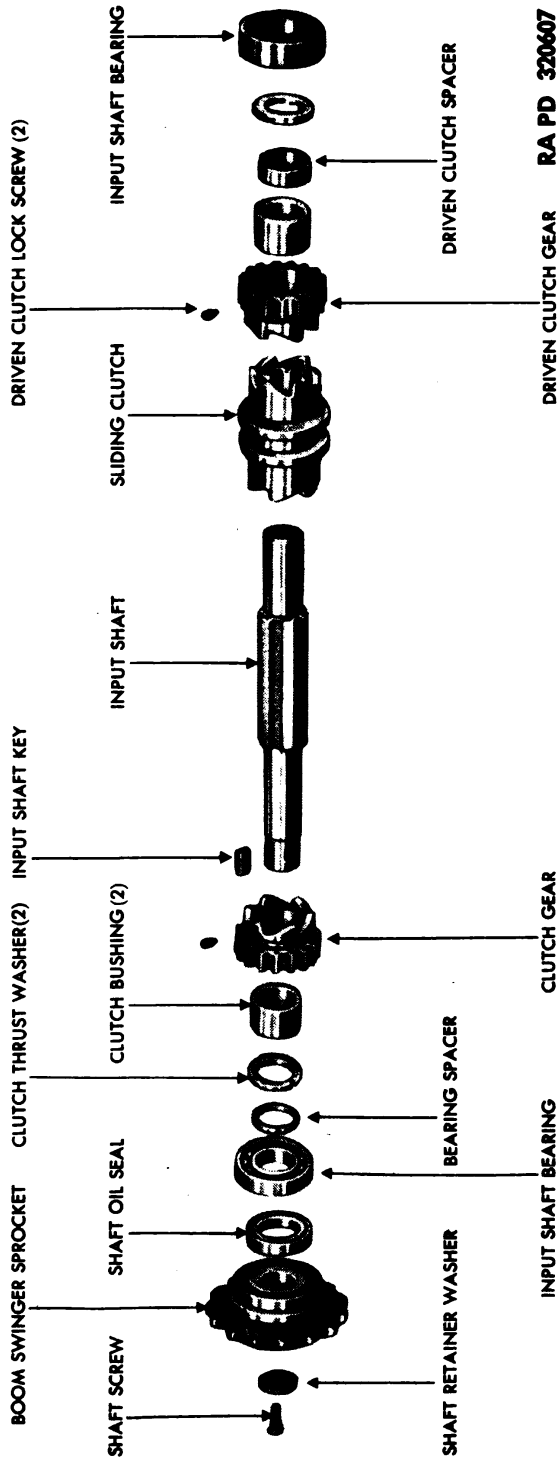
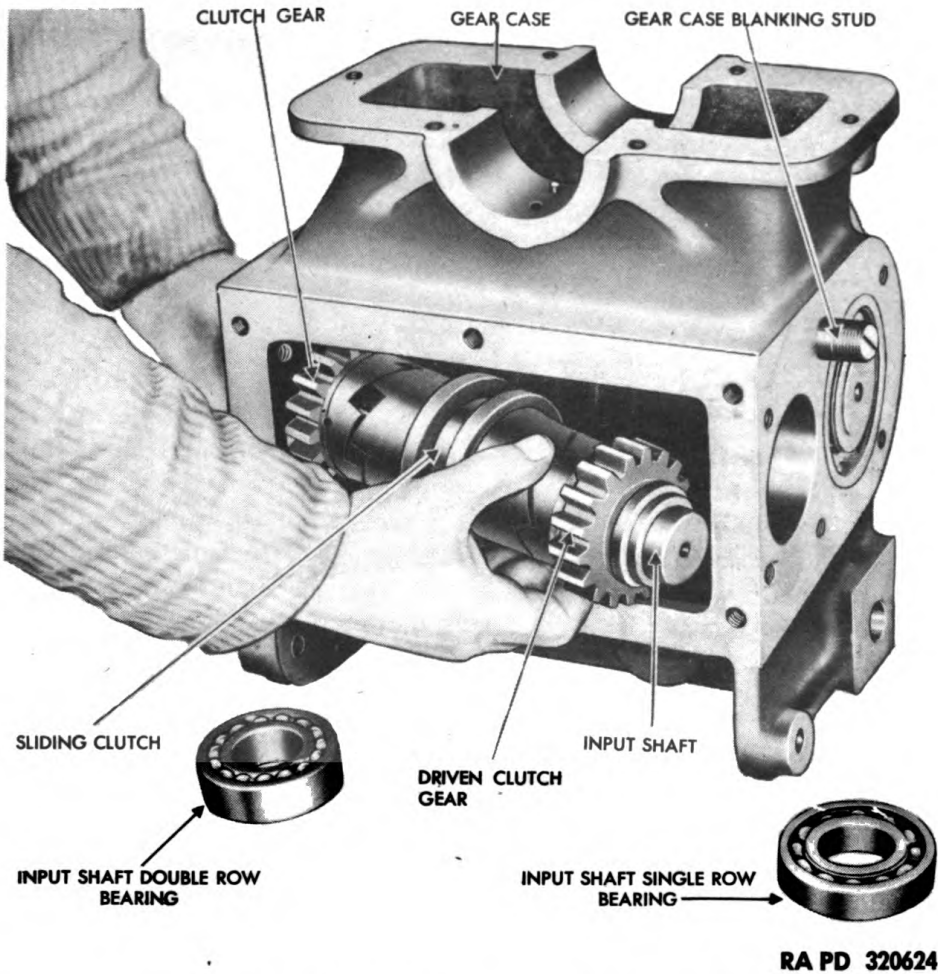

Figure 46 – Boom Swinger Input Shaft – Disassembled
Figure 63 – Installing Gear Case Input Shaft
g. Remove Input Shaft. Remove the $\frac{3}{8}$ -inch sprocket retaining cap screw and retaining washer, and drive sprocket off the input shaft (fig. 46). Remove five $\frac{7}{16}$ -inch cap screws and lock washers attaching gear case sprocket end cover to the case. Lift the cover free of input shaft and case. Remove five $\frac{7}{16}$ -inch cap screws and lock washers from gear case cover, remove $\frac{3}{4}$ -inch end cover blanking stud nut and lock washer, and lift off the end cover (fig. 63). Remove the set screw lock wires from the driven clutch gear hubs, and remove two set screws (fig. 46). Pull the input shaft toward the sprocket end; using a soft punch, drive the input shaft bearings off the shaft and out of the gear case. Move the input shaft assembly toward the front of the gear case until the rear of the shaft can be tilted out of the gear case through the shift cover opening, and lift the input shaft assembly free of the gear case (fig. 63).
h. Disassemble Input Shaft. Slide off the clutch spacer, thrust washer, and rear clutch gear assembly. Remove the thrust washer from the front end of the input shaft, and slide off the clutch gear. Tap the clutch gear bushings out of the clutch gears, remove bearing spacer, and slide the input shaft out of the sliding clutch (fig. 46).
b. **Assemble Input Shaft.** Slide the sliding clutch onto the input shaft spline, and install the bearing collars with the lubricating groove toward the clutch gear (fig. 46). Tap the bushing assemblies into the clutch gears, and slide the clutch gear onto the input shaft. Install the set screw in the clutch gear opposite the drive end, and install the lock wire. The slot in the set screw should be in alignment with the circumferential groove machined in the hub of the clutch gear. Do not install the set screw in the drive end clutch gear. Install thrust washers with grooves toward clutch gear on both ends of the shaft, and install the space washer on the forward gear end.
f. Remove Input Shaft. Remove the $\frac{3}{8}$ -inch sprocket retaining cap screw and retaining washer, and drive the sprocket off the input shaft. Remove five $\frac{7}{16}$ -inch cap screws and lock washers attaching the gear case sprocket end cover to case. Lift the cover free of the input shaft and case. Remove the set screw lock wires from the driven clutch gear hubs, and remove two set screws. Pull input shaft toward the sprocket end, and using a soft punch, drive input shaft bearings off the shaft and out of the gear case (fig. 46). Move input shaft assembly toward the front of the gear case until the rear of the shaft can be tilted out of the gear case through the shift cover opening, and lift input shaft assembly free of the gear case (fig. 63).
clutch gear bushings out of clutch gears, remove clutching gear spacer, and slide the input shaft out of the sliding clutch (fig. 46).
the worm. Install worm rear bearing on worm and in case. **NOTE:** The hubs of the forward and reverse gear face the center of the worm. The worm is assembled with the reverse gear in the same end of the gear case as the reverse idler gear (fig. 60). The blanking stud in the gear case which is not removed in the disassembly controls the location of the reverse idler and reverse gear. This is the only means of identifying the end of the worm on which the forward gear is located. The blanking stud and forward gear are on the same end of the gear case and worm (fig. 63).
c. **Install Input Shaft.** Set the drive end of the input shaft through the gear case cover opening and the input shaft bearing bore. Straighten the input shaft into position, install the single-row bearing on the forward gear end, and the double-row bearing on the drive or reverse gear end of the input shaft (fig. 63). Align the holes in the clutch gear and clutch gear bushing, and install the set screw and lock wire as described in subparagraph b above.